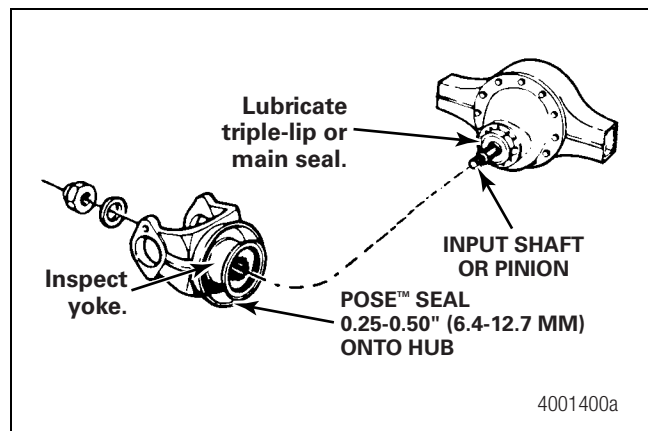

Figure 5.4
3. Install the POSE™ seal onto the yoke or the flange hub by hand. The lips of the seal must face toward the end of the hub, opposite the shoulder. Slide the POSE™ seal onto the hub until the lips are 0.25-0.50-inch (6.4-12.7 mm) from the end of the hub. Do not install the POSE™ seal against the shoulder. Figure 5.4.